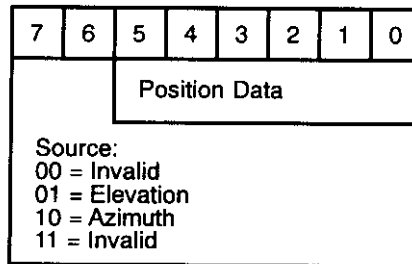

Figure 13. Elevation & Azimuth Position Word (Words 3 & 4 or 10 & 11)
- Word 3: Position (lower 6 bits) see Figure 13
- Word 4: Position (upper 6 bits) see Figure 13
- Word 10: Position (lower 6 bits) see Figure 13
- Word 11: Position (upper 6 bits) see Figure 13